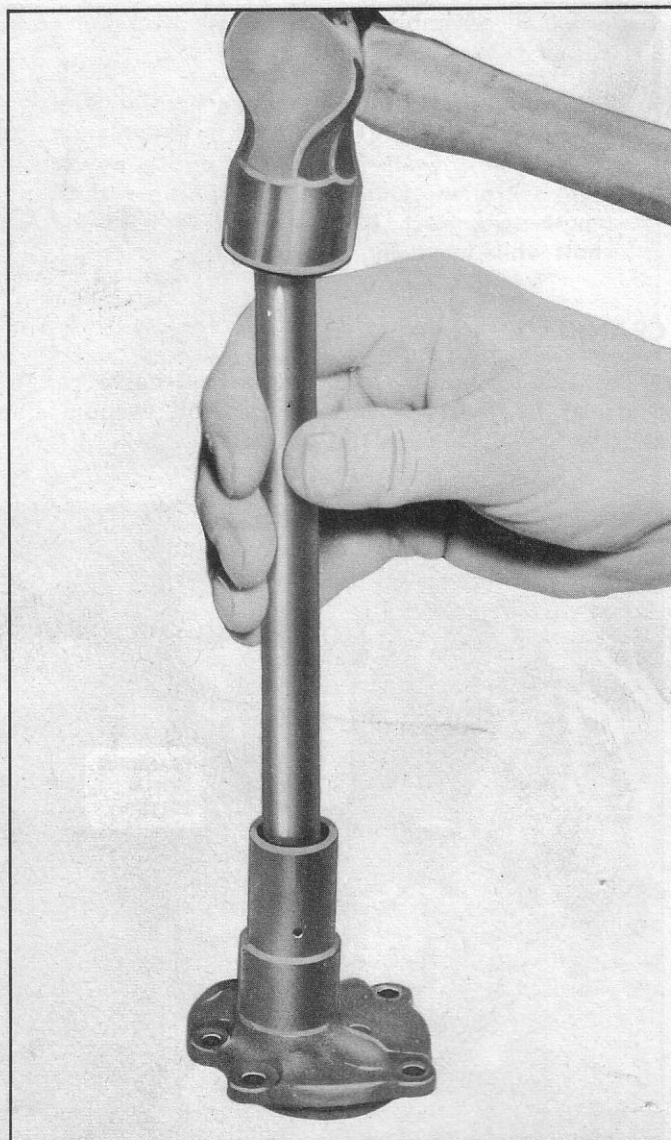

Fig. 55—Installing Drive Shaft Seal
6. Install new shaft seal using suitable diameter tool (fig. 55).